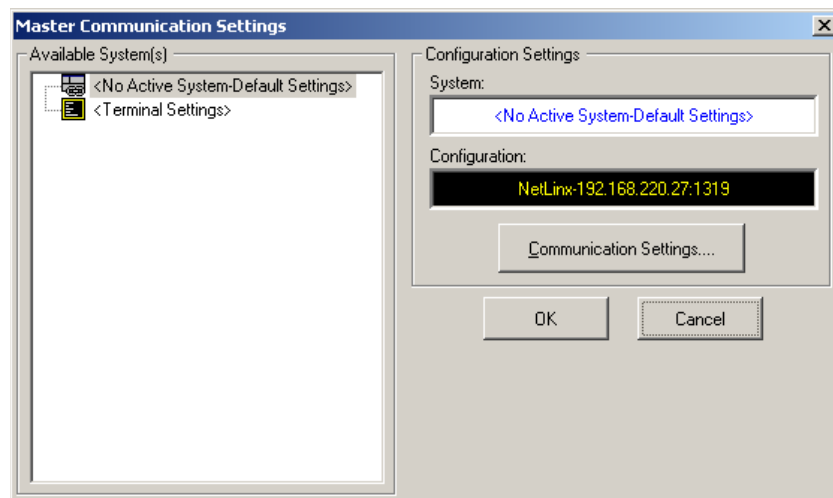

FIG. 25 NetLinx Studio - Master Communication Settings dialog
1. In NetLinx Studio: select **Settings > Master Communication Settings** to open the *Master Communication Settings* dialog (FIG. 25).